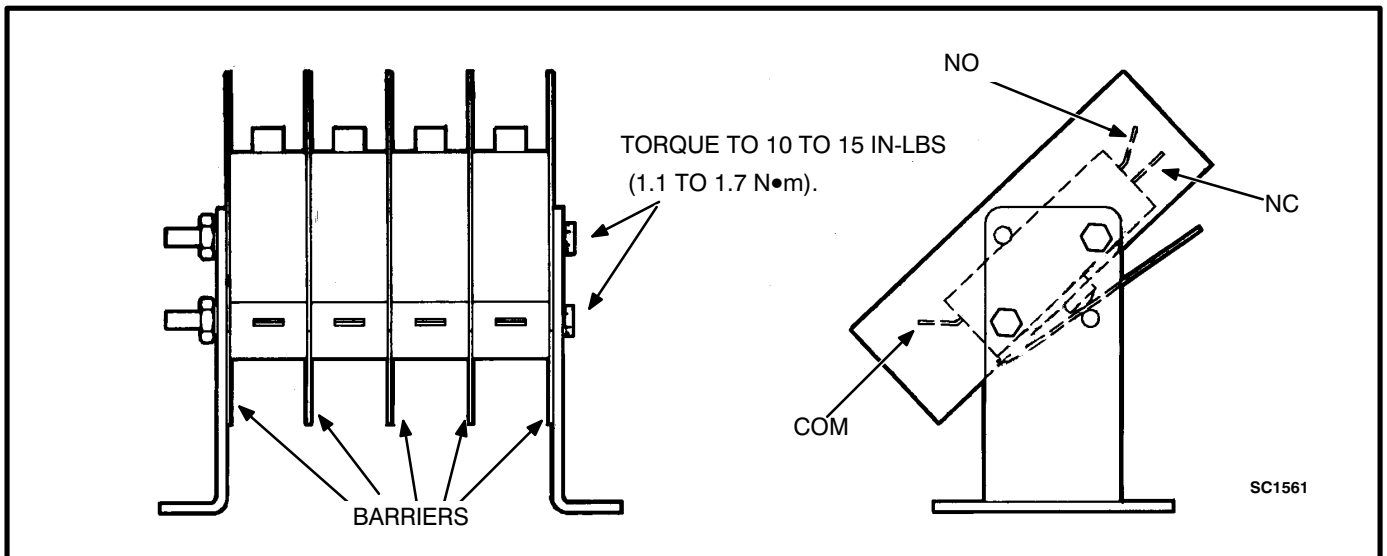

FIGURE 4-20. AUXILIARY SWITCH (800 - 1000 AMPERES)
6. Remove the control wiring leads from the auxiliary switch terminals (Figure 4-20).
8. Remove the round head machine screws, Flat washers, and nuts that secure the auxiliary switches to the bracket (Figure 4-20); and lift out the auxiliary switches and insulating barriers.
1. Install the insulating barriers and auxiliary switches in the brackets and secure with hex head capscrews (2) and nuts (2). Note that each switch must be assembled so the side with two terminals faces inward (Figure 4-20) when the auxiliary switch assembly is installed.